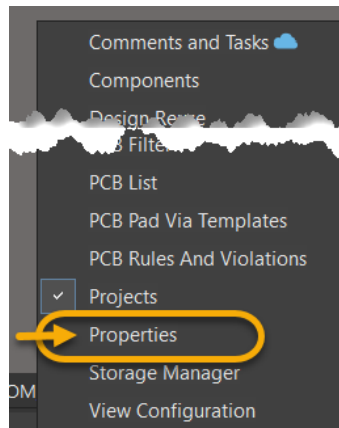

Figure 11. PCB panels Bottom to open Properties Panel
31. Open the *Properties* panel, if not already open from the **Panels** button , Figure 11.